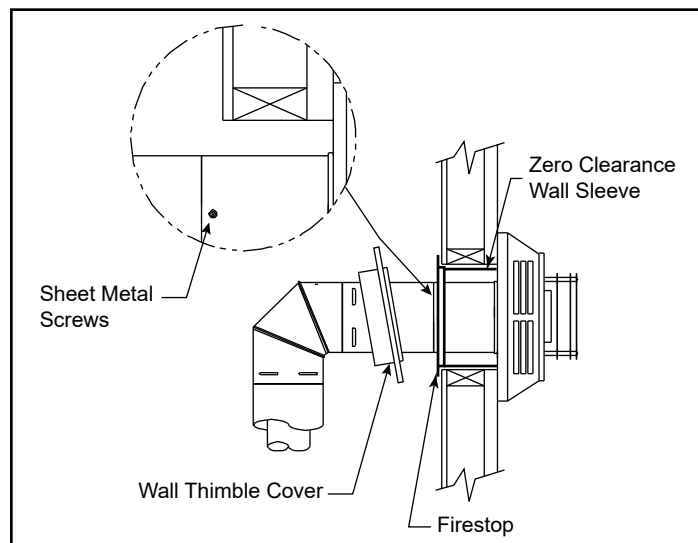

Figure 3.30
Step 5 - Slide the appliance and vent assembly towards the wall, carefully inserting the pipe section into the cap assembly. It is important the pipe section extends into the back of the termination cap with a minimum overlap of 1-1/4" (32 mm). Use the two (2) sheet metal screws provided to secure the pipe section to the back of the termination cap. The wall thimble cover will cover the screw heads, Figure 3.30.